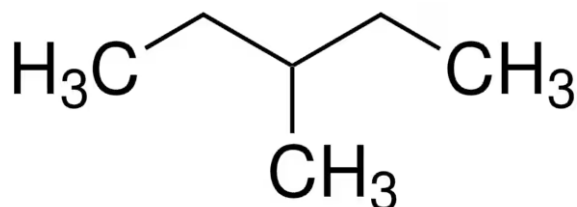

Figure 3: 3 methylpentane
- (4). Consider the free radical monochlorination of 3-methylpentane (Figure 3).